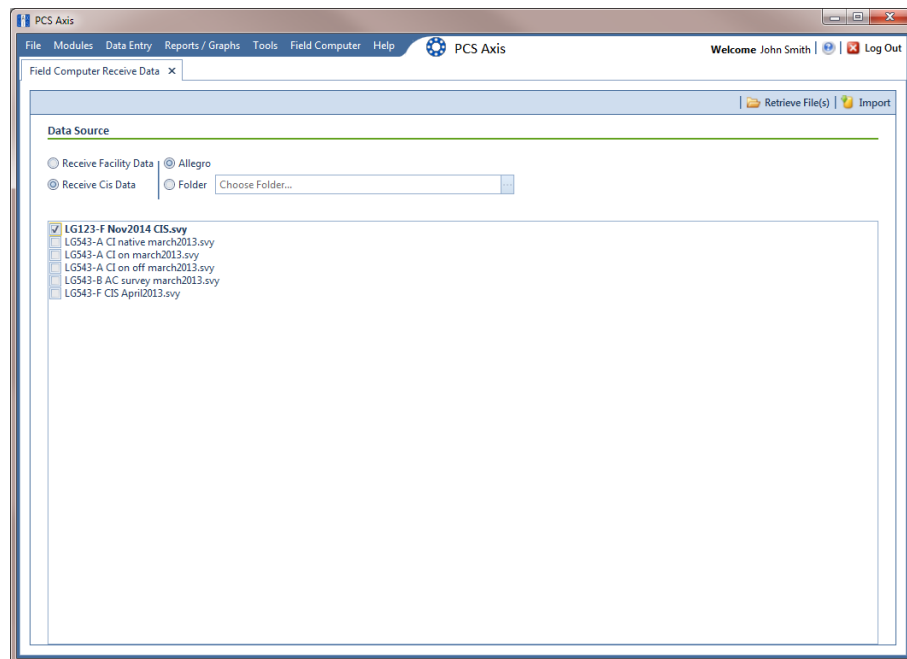

Figure 13-19. Field Computer Receive
- 4 Click  **Retrieve File(s)** to view a list of survey files available for selection (Figure 13-19).
- 5 Select the close interval (CI) survey files you want to transfer from the Allegro. Click the check box for one or more survey files listed in the *Field Computer Receive Data* window.